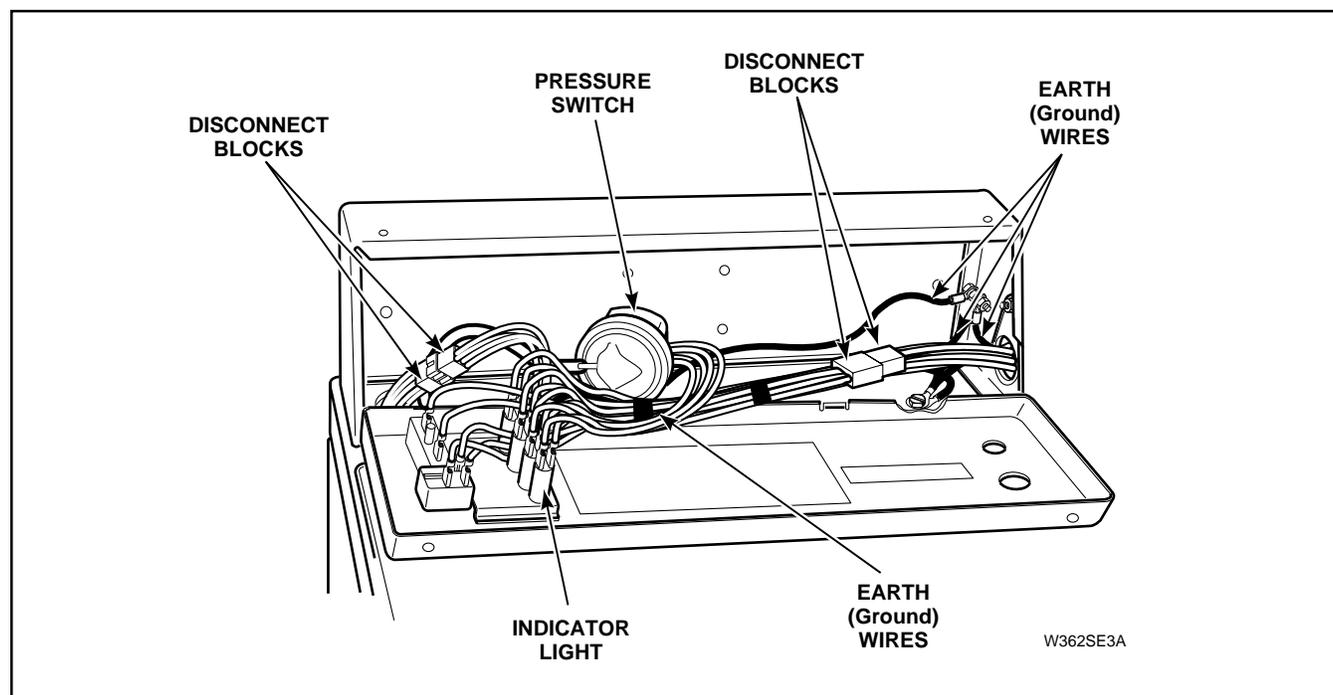

Figure 6
2. Unplug wire harness quick disconnect blocks, two earth (ground) wires and leads from pressure switch and loading door switch, *Figure 6*.
### c. INDICATOR LIGHTS — (Unbalanced Load In Use, Rinse or Spin, *Figure 6*):
### d. PRESSURE SWITCH (*Figure 6*)